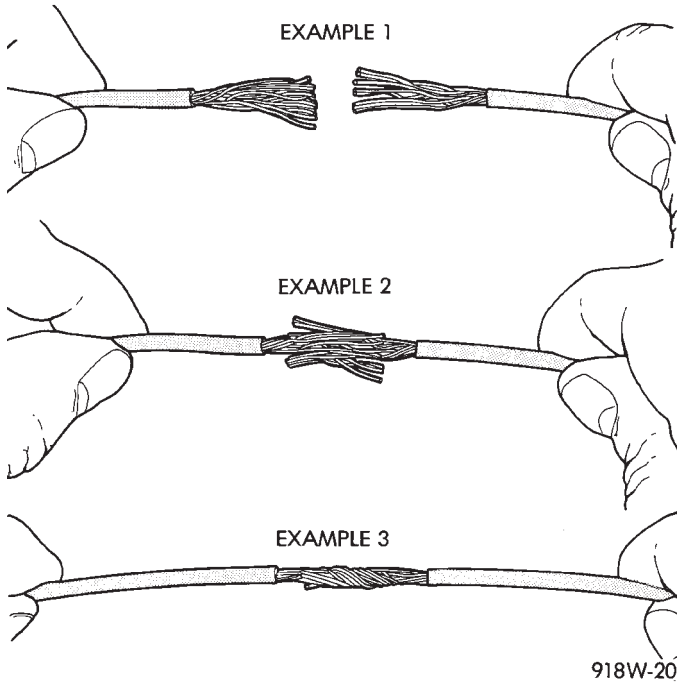

Fig. 9 Wire Repair
(1) Disconnect battery negative cable.
(2) Remove 1 inch of insulation from each end of the wire.
(3) Place a piece of heat shrink tubing over one side of the wire. Make sure the tubing will be long enough to cover and seal the entire repair area.
(4) Spread the strands of the wire apart on each part of the exposed wire (example 1) (Fig. 9).
(5) Push the two ends of wire together until the strands of wire are close to the insulation (example 2) (Fig. 9).
(6) Twist the wires together (example 3) (Fig. 9).
(7) Solder the connection together using rosin core type solder only. **Do not use acid core solder.**
(8) Center the heat shrink tubing over the joint, and heat using a heat gun. Heat the joint until the tubing is tightly sealed and sealant comes out of both ends of the tubing.
(9) Secure the wire to the existing ones to prevent chafing or damage to the insulation.
(10) Connect battery and test all affected systems.